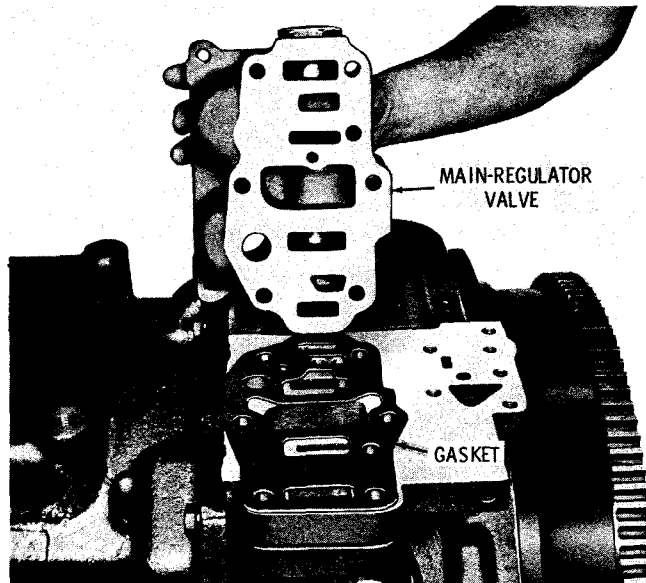

Fig. 7-108. Installing main-pressure regulator valve body assembly (VCLT, VCLBT)
(20) Install the gasket and main-pressure regulator valve body assembly (fig. 7-108).